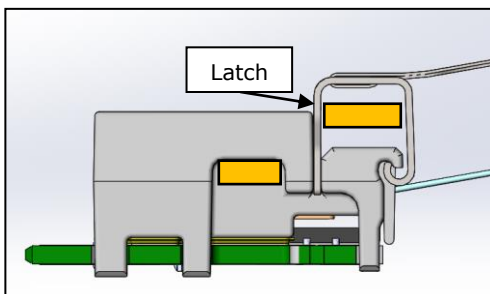

FIGURE 1
1. Ensure that the latch located on the heat sink of the FireFly is in the up position, as seen in **Figure 1**.
3. Place the tool over the top of the FireFly and align the retention features inside the tool with the locations denoted by the orange boxes in **Figure 1**. NOTE: The tool should extend past the bottom of the FireFly.
1. Lift the latch located on the heat sink of the FireFly to the up position as seen above in **Figure 1**.
3. Place the tool over the top of the FireFly and align the retention feature inside the tool with the locations denoted by the orange boxes on **Figure 1**.